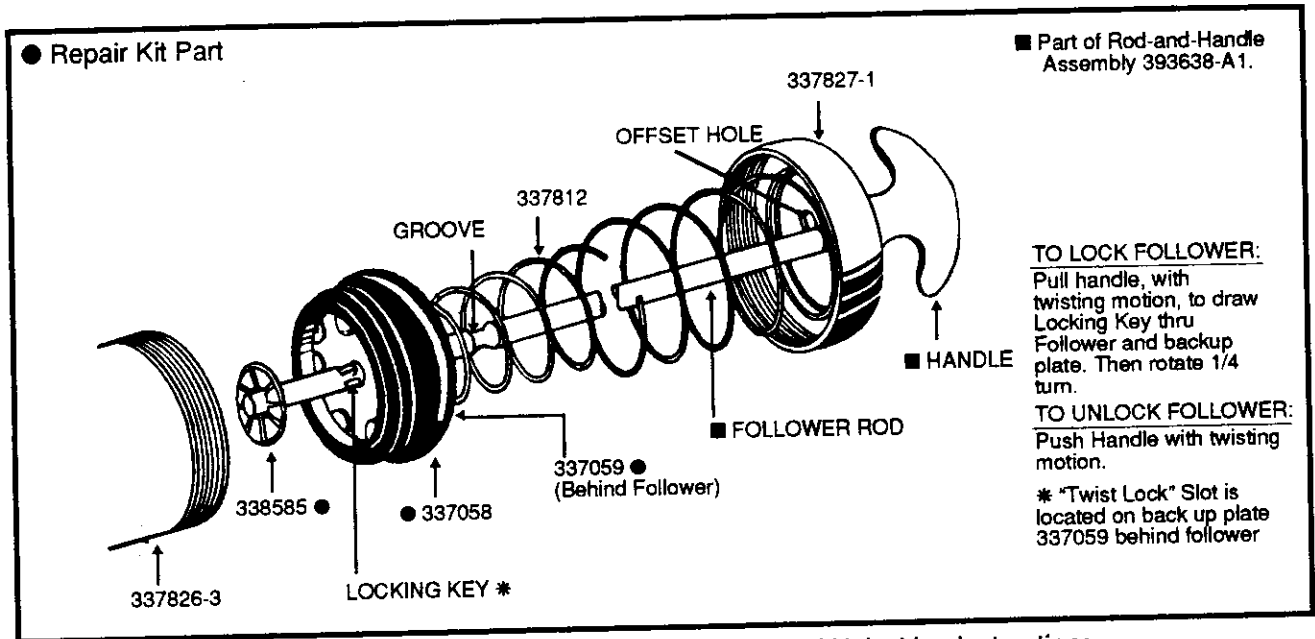

Figure 5: Cylinder Configuration with Locking and Unlocking Instructions
2. Pull follower rod back and engage groove on follower rod with offset hole in end cap (Figure 5).
6. Release follower rod from end cap offset hole and push into cylinder (Figure 5).
4. Operate loader pump to fill cylinder until groove on follower rod is exposed (Figure 5).
2. Pull out follower rod and engage locking key in "twist-lock" slot on follower backup plate 337059 (Figure 5).